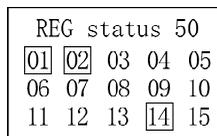

Fig. 16 Current date query interface
- 1) **Time query:** Press the Menu key, enter the main menu after entering the correct password, and select and enter "1.Information Query" by the key "▲" or "▼", and then select "5. Current Date" to see the time, as shown in Fig. 16, press the Exit key to return to the previous level screen.